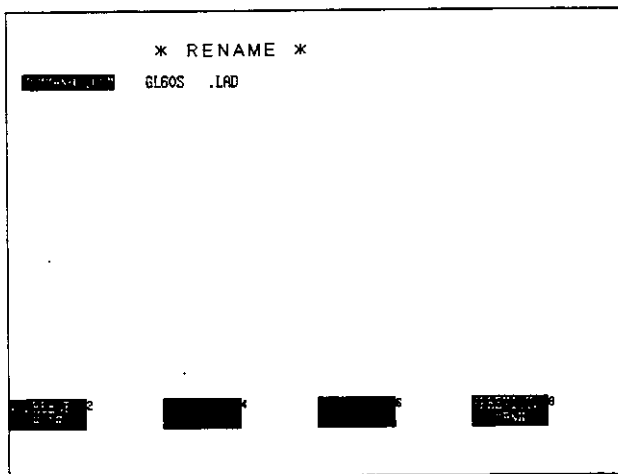
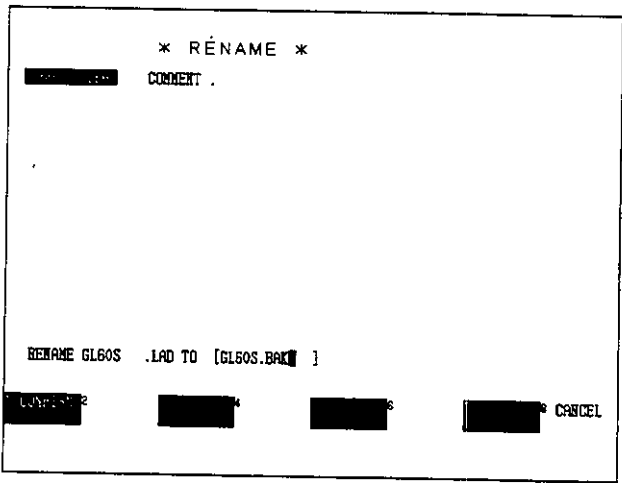

Figure 6.373
Figure 6.375
(2) Selecting Previous Menu in the screen shown in *Figure 6.375* will return the display to the screen shown in *Figure 6.373*.